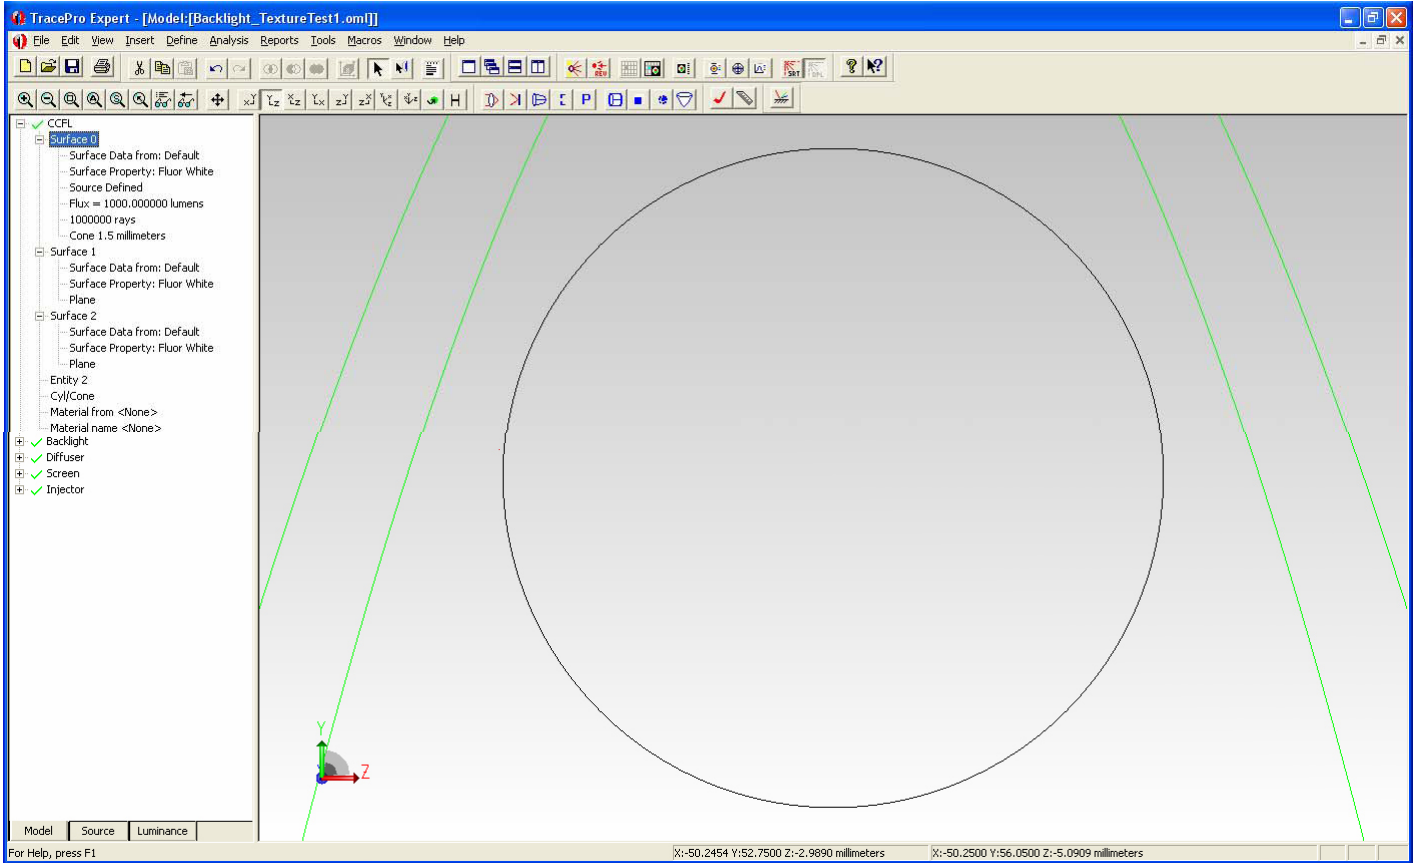

Figure 12. System Tree for the surfaces of the CCFL.
15. As per Fig. 12, inspect the System Tree such that the properties for CCFL are as shown (Note: Fig. 12 also shows all of the other objects that we will define in this section.)